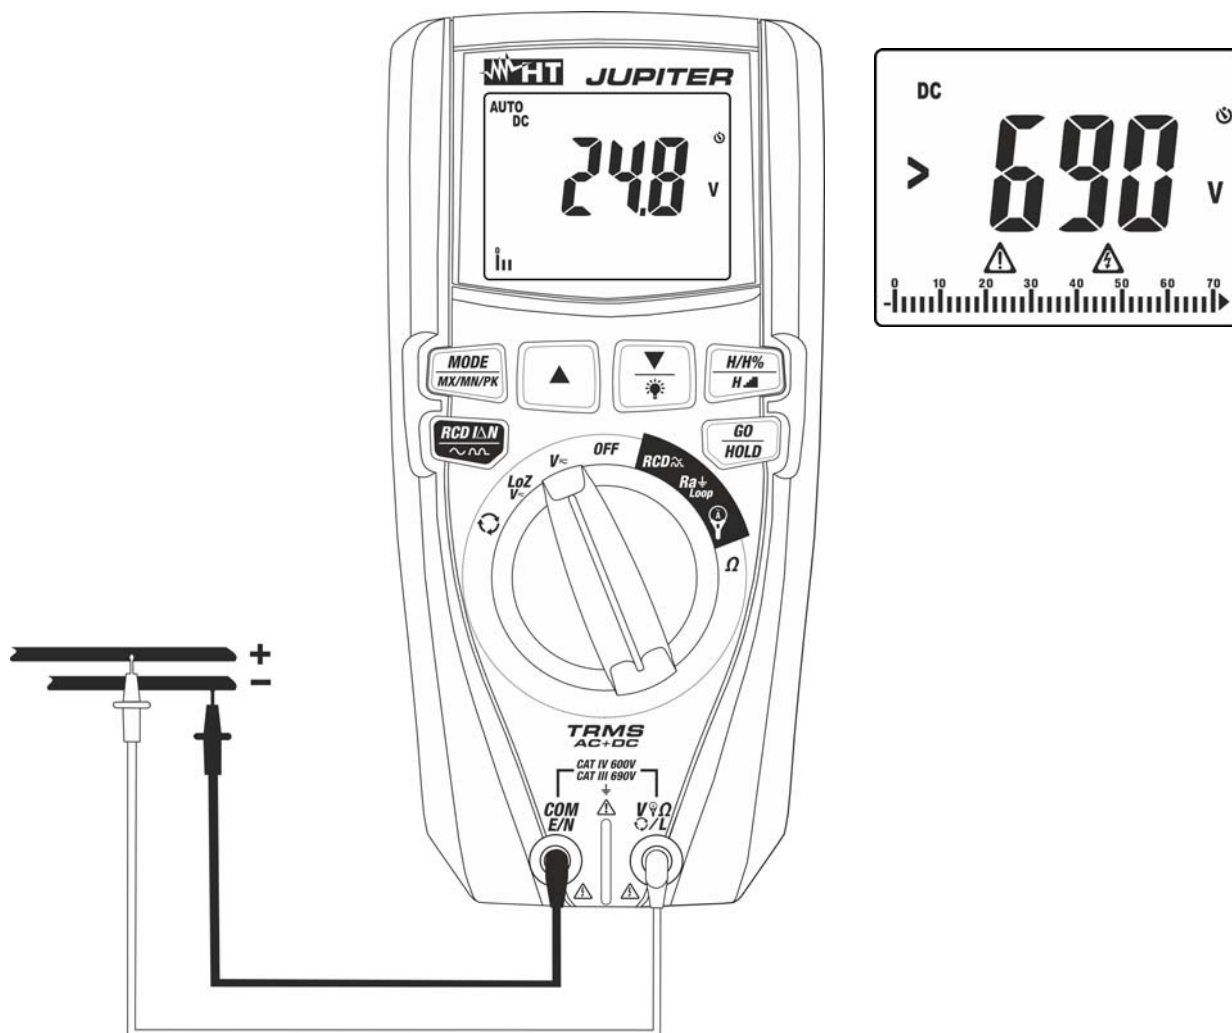
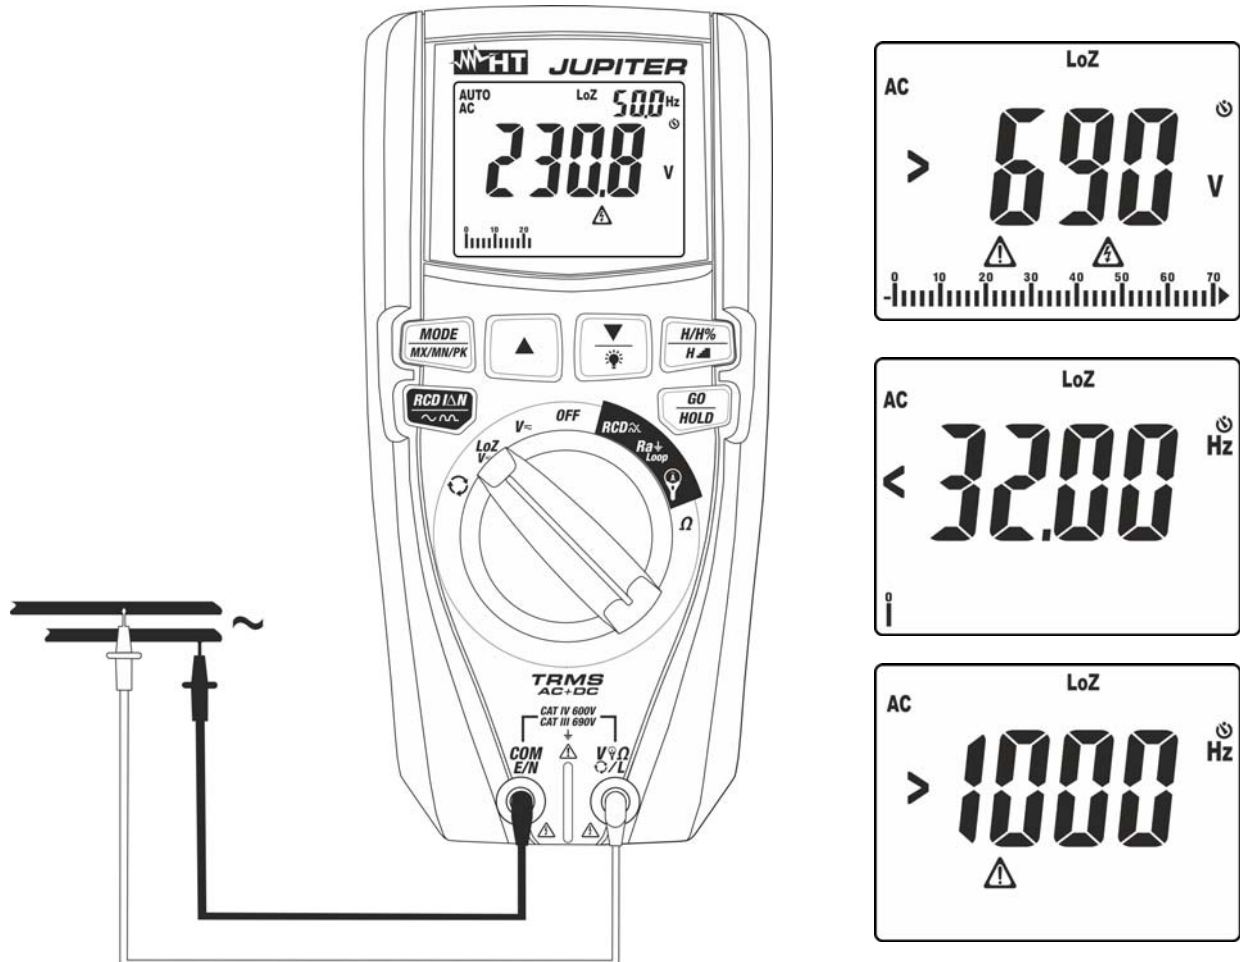

Fig. 8: Use of the instrument for DC voltage measurement
Fig. 10: Use of the instrument for AC/DC voltage measurement with LoZ function
3. Position the red lead and the black lead respectively in the spots with positive and negative potential of the circuit to be measured (see Fig. 8). The display shows the value of voltage.
4. If the display shows the message ">690V" (see Fig. 8), the maximum measurable value has been reached.
5. When symbol "-" appears on the instrument's display, it means that voltage has the opposite direction with respect to the connection in Fig. 8.
4. Position the red lead and the black lead respectively in the positions of the circuit to be tested (see Fig. 10) for AC voltage measurement or in the positions with a positive or negative potential of the circuit to be tested (see Fig. 8) for DC voltage measurement. The display shows the value of voltage. On the top of the display on the right side, the value of voltage frequency is displayed. Press key **MODE/MX/MN/PK** to display the value of frequency with a higher resolution.
5. If the display shows the messages "<32Hz" or ">1000Hz" (see Fig. 10), the value of frequency is out of the measuring range **32Hz ÷ 1000Hz**.
6. When symbol "-" appears on the instrument's display, it means that voltage has the opposite direction with respect to the connection in Fig. 8.